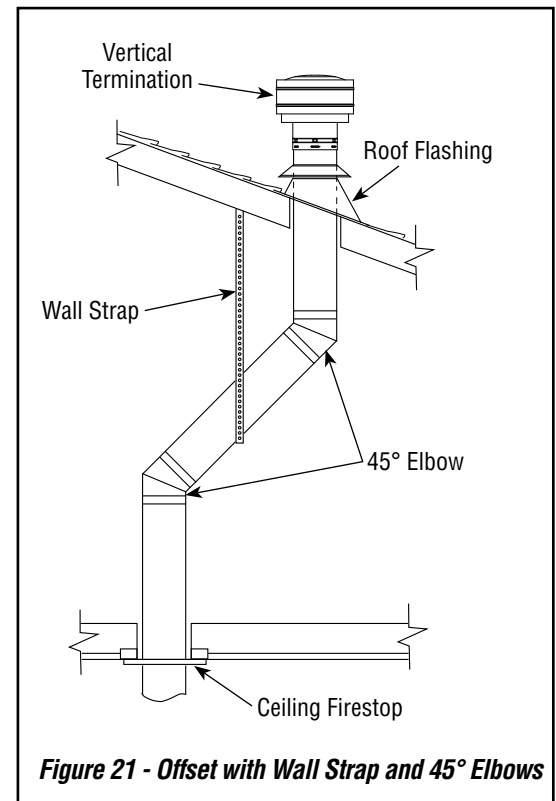

Figure 21 - Offset with Wall Strap and 45° Elbows
1. Determine route your vertical venting will take. If ceiling joists, roof rafters or other framing will obstruct venting system, consider an offset (see **Figure 21**) to avoid cutting load bearing members. **NOTE:** Pay special attention to these installation instructions for required clearances (air space) to combustibles when passing through ceilings, walls, roofs, enclosures, attic rafters, etc. Do not pack air spaces with insulation. Also note maximum vertical rise of venting system and any maximum horizontal offset limitations (see **Figures 17A**).
NOTE: If an offset is needed to avoid obstructions, you must support vent pipe every 3 feet. Use wall straps for this purpose (**see Figure 21, Page 22**). Whenever possible, use 45° elbows instead of 90° elbows. The 45° elbow offers less restriction to the flow of flue gases.
5. Place flashing over pipe section(s) extending through roof. Secure base of flashing to roof and framing with roofing nails. Be sure roofing material overlaps top edge of flashing as shown in **Figure 21, Page 22**. There must be a 1" clearance from vent pipe to combustible materials.